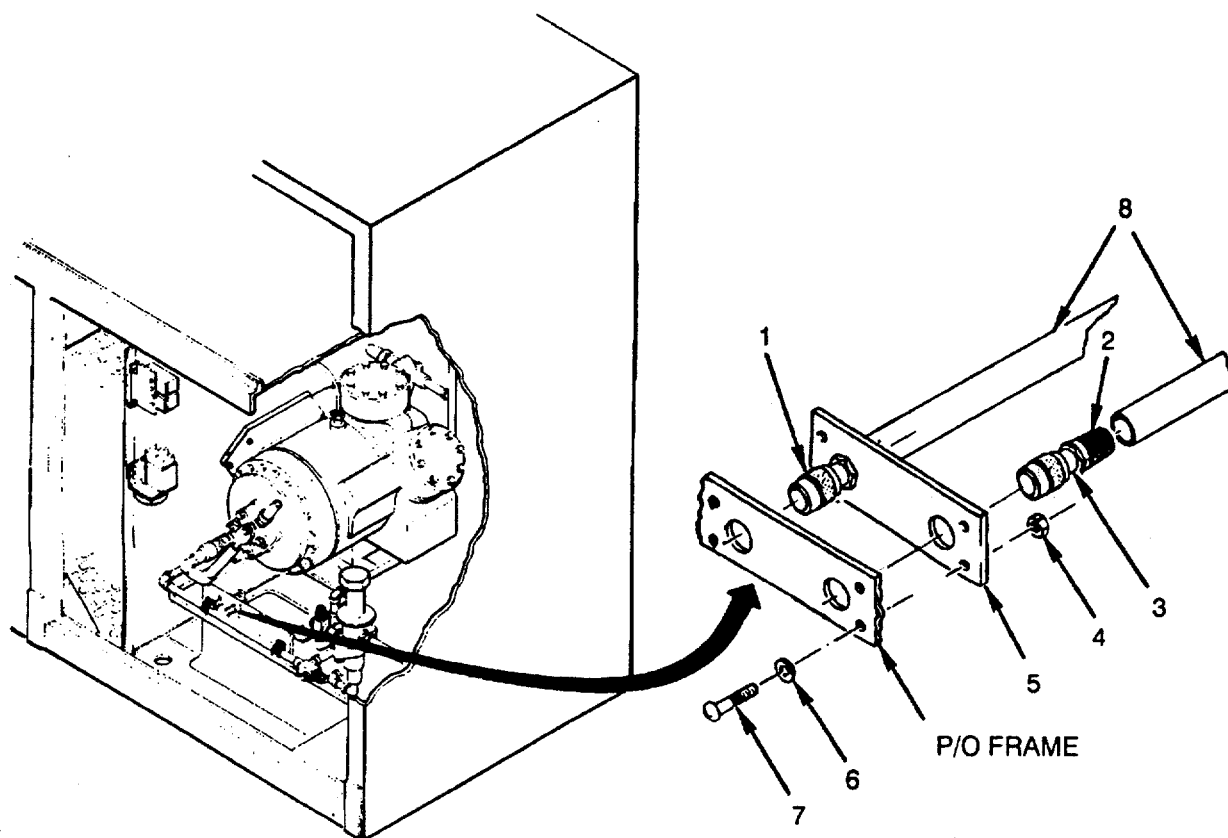

Figure 5-21. Service Valves (Schrader)
1. Check that caps are in place and that threaded connection ends are not damaged. Replace if missing or damaged (see Figure 5-21).